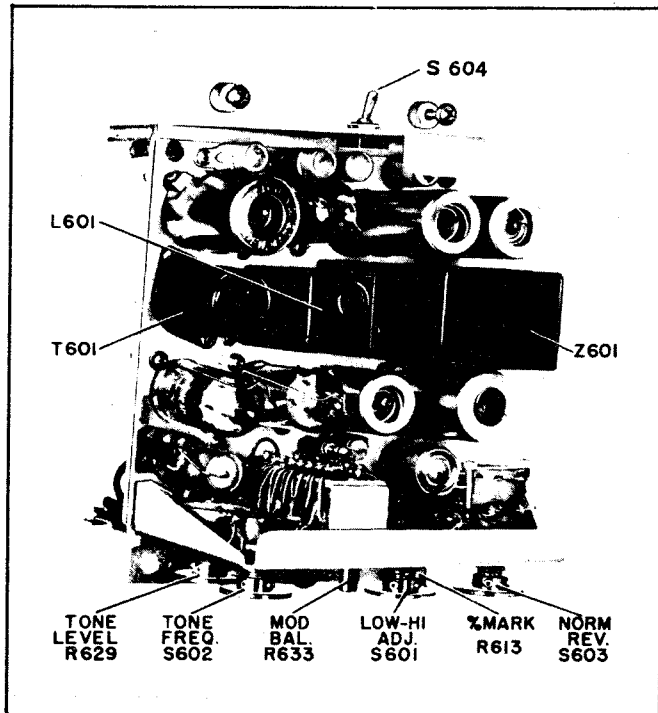

Figure 7-11. Keyer Chassis, Top View
f. **KEYER UNIT.**—See Figures 7-11 and 7-12. Check the tubes then circuit check the unit for shorts, open circuits or off-value parts (see Figures 7-31, 7-32 and Table 7-4).